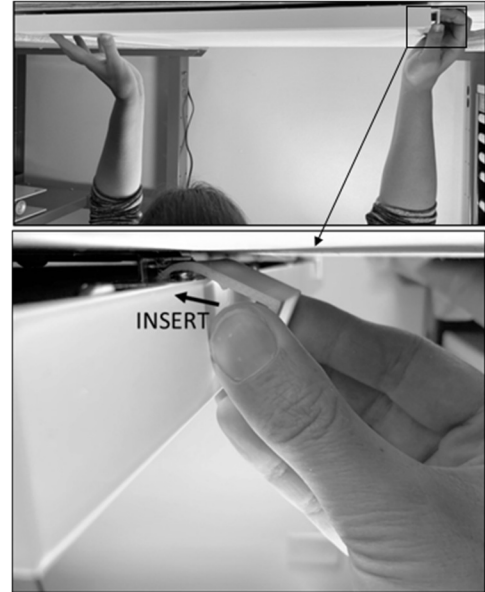

Figure 3. Inserting the clip into the opening.
3. With the luminaire OFF, and while positioned at the end of the light as shown in the top of Figure 3, insert the curved end of one clip into the opening in one holder bracket, with the curve pointing down, while using the opposite hand to support the luminaire. (The clips can be installed in any order.)